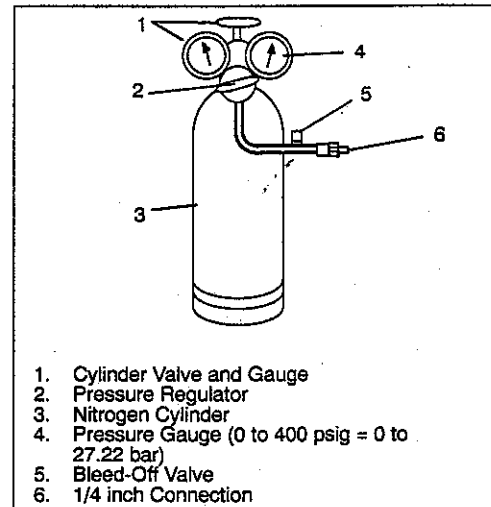

Figure 4-8 Checking High Pressure Switch
- b. Connect switch to a cylinder of dry nitrogen. See *Figure 4-8*.